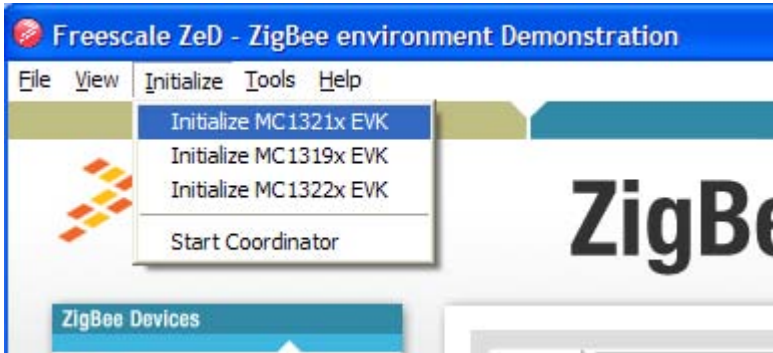

Figure 9. Initializing the EVKs
1. From the ZeD menu bar choose Initialize -> Initialize MC1321x EVK (or MC1319x EVK, MC1322x EVK) as shown in Figure 9.